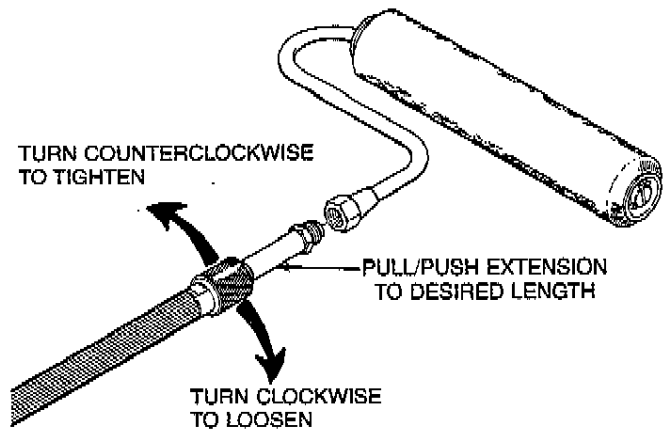

Figure 2. - Telescopic Extension.
6. **To reach higher areas, twist the knurled lock nut clockwise to loosen, pull extension out to desired length and retighten as shown in Figure 2.**